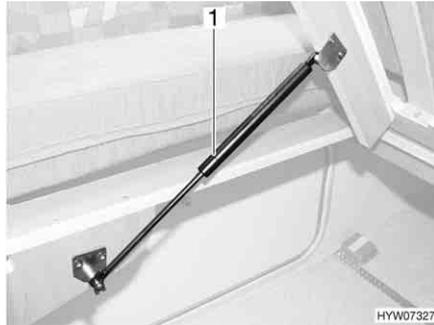

Fig. 141 Fixed bed
- Lift slatted frame. The gas-pressure springs (Fig. 141,1) hold the slatted frame open.